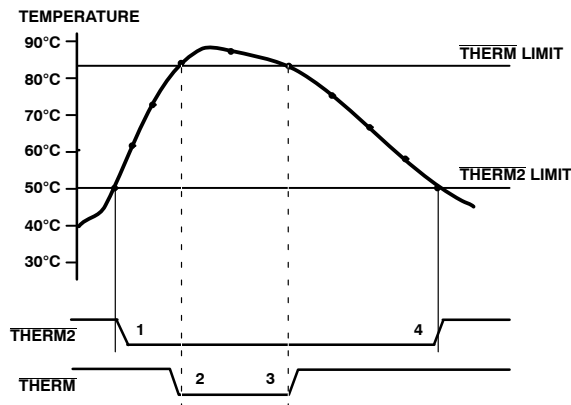

Figure 20. Operation of the $\overline{\text{THERM2}}$ and $\overline{\text{THERM}}$ Interrupts
Figure 20 shows how $\overline{\text{THERM}}$ and $\overline{\text{THERM2}}$ operate together to implement two methods of cooling the system. In this example, the $\overline{\text{THERM2}}$ limits are set lower than the $\overline{\text{THERM}}$ limits. The $\overline{\text{THERM2}}$ output is used to turn on a fan.
- The $\overline{\text{THERM}}$ output deasserts (goes high) when the temperature falls to $\overline{\text{THERM}}$ limit minus hysteresis. In Figure 20, there is no hysteresis value shown.